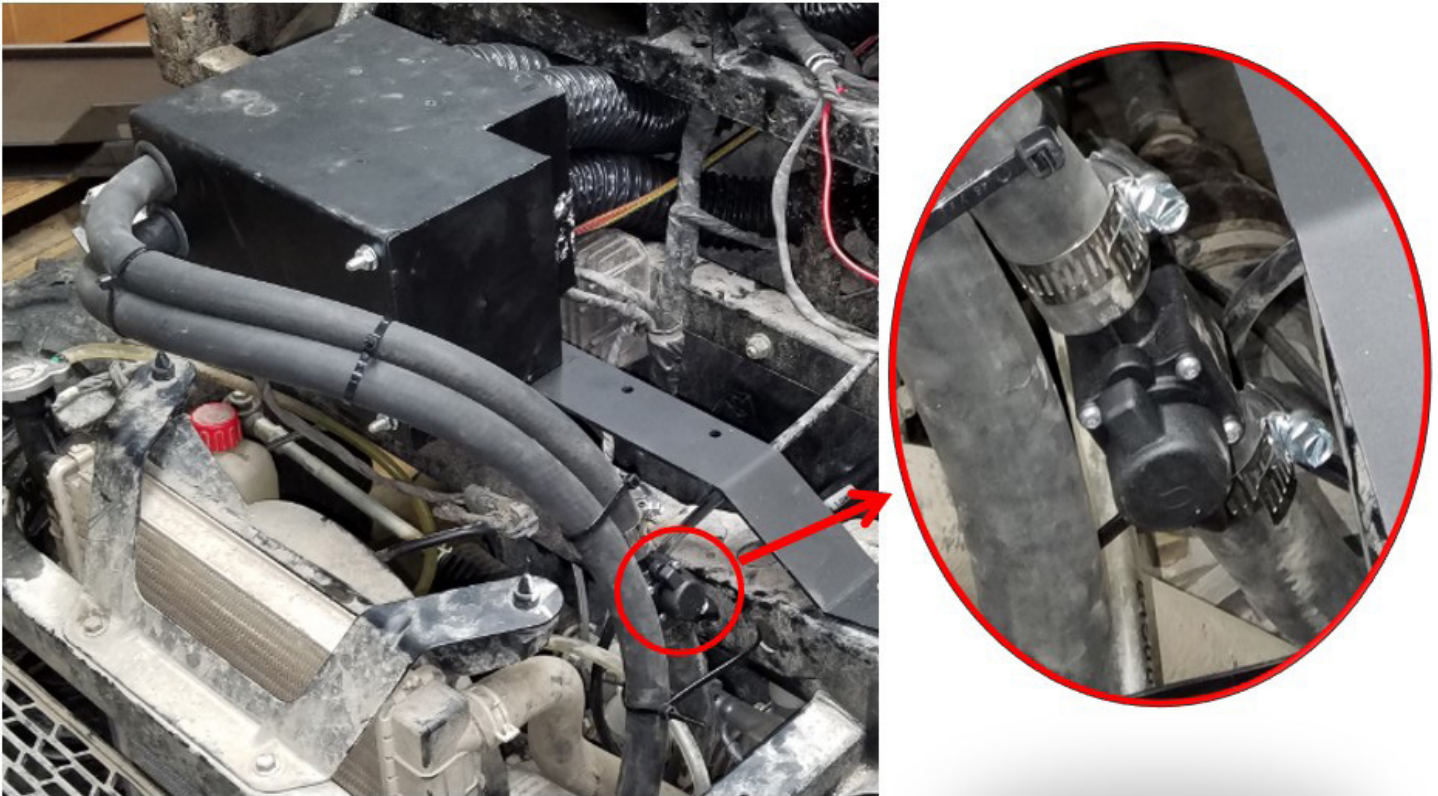

FIGURE 22
54. Install the plastic shutoff valve in the long piece of $\frac{5}{8}$ " radiator hose by cutting the hose and inserting the plastic shutoff valve as shown in **FIGURE 22**. Secure using two of the #10 hose clamps.
55. Zip tie the two $\frac{5}{8}$ " hoses together as shown in **FIGURE 22**. Loosely zip tie the hoses to the frame that the heater box is mounted to. This will keep the hoses from rubbing against the radiator.